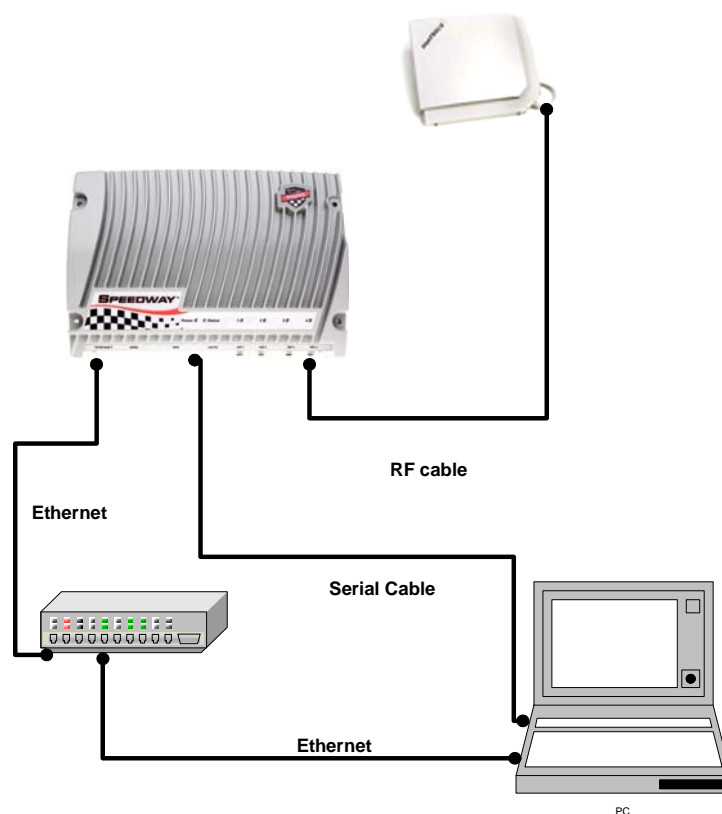

Figure 9-1 Basic Reader Configuration
Figure 9-1 shows the basic reader test configuration. A serial connector enables connection from the DB9 port on the computer to the serial port on the reader. If your computer does not have a DB9 port, you can obtain a USB-to-serial adaptor, which is commonly available at office supply or computer stores.
- Verify the status LED is providing the state of the boot operation (see Figure 9-1).